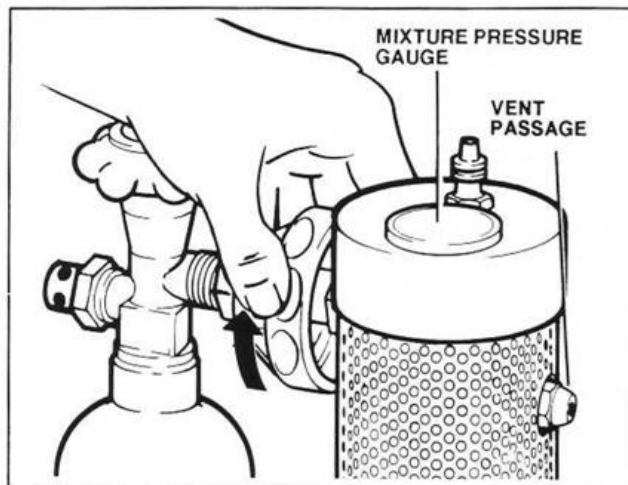
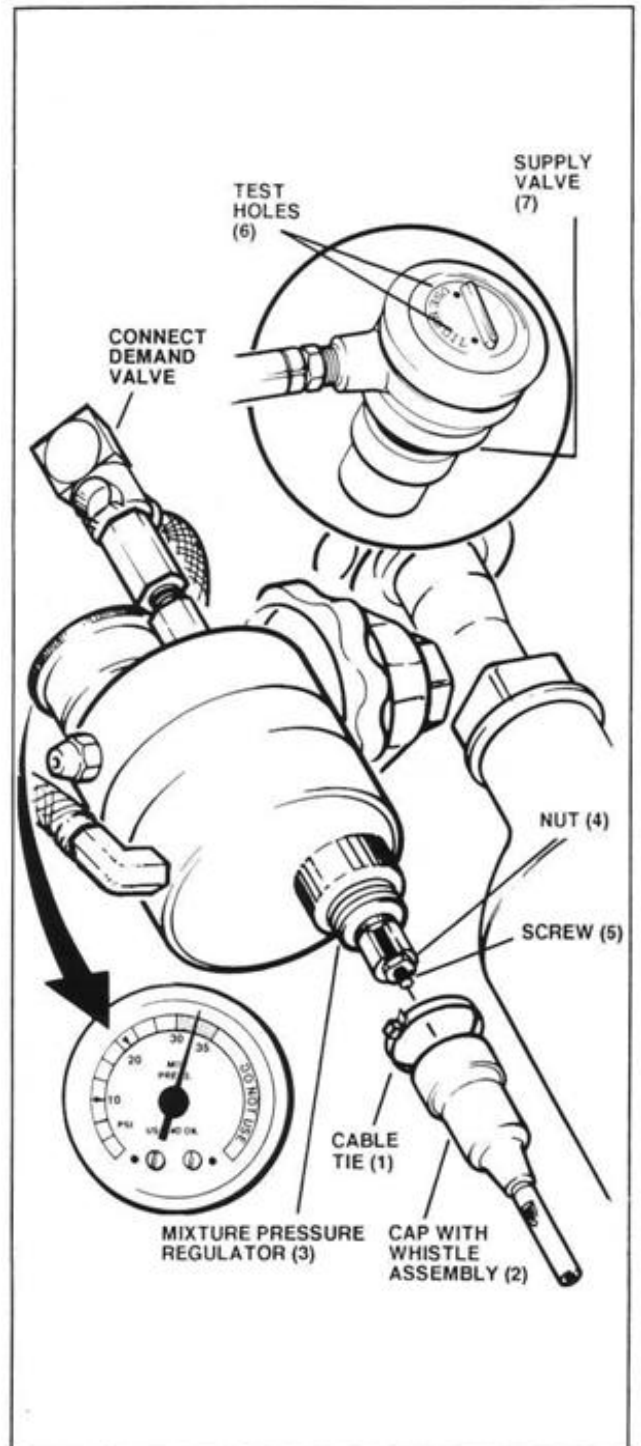

Figure 4. Attaching the Cylinder.
Figure 15. Mixture Pressure Adjustment.
4. Attach the nitrous oxide cylinder to the mixer assembly by turning the hand-wheel clockwise until it is "hand-tight" as shown in Figure 4.
To adjust the mixture pressure, refer to Figure 15 and:
2. (Fig.15) Carefully remove the two red end caps (not shown) on the mixer assembly.
4. Keeping tie and cap together, slide off the cable tie (1) and cap with whistle assembly (2) from the mixture pressure regulator (3) to expose the mixture pressure adjustment nut (4) and screw (5).
5. Attach cylinder **Section 2.1 Fig.4**. Turn on the unit **as described in Section 2.2**.
6. Use a wrench to loosen the 7/16 in. hex nut (4), approximately ¼ turn (counterclockwise). With a screwdriver, turn the adjustment screw (5) in the center of the nut clockwise to decrease the pressure and counterclockwise to increase the pressure. Set the mixture pressure at the middle of the green band on the mixture pressure gauge.